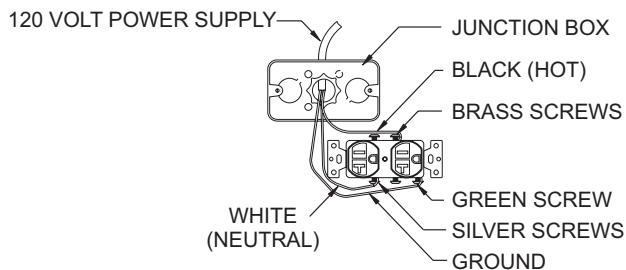

Figure 39
4. Run 14/2 Nm-B with ground or 12/2 Nm-B with ground wire through the electrical access panel into the Junction box. Attach the black wire to the receptacle, and the white wires to the receptacle as shown in **Figure 39**. Secure the incoming ground wire and green receptacle ground wires under the green ground screw provided in the junction box.